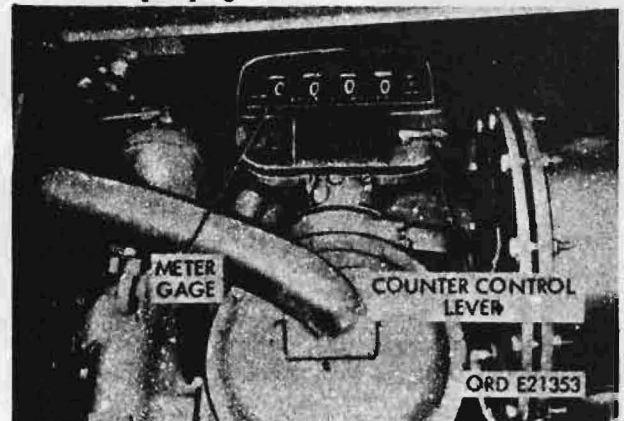

Figure 99. Meter gage
- (2) Meter gage (fig. 99). This gage, located on top of the meter, indicates the number of gallons pumped or transferred by the pumping unit.